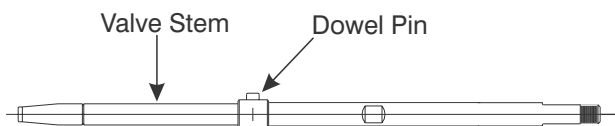

Figure 8-21. Valve Stem Assembly
9. Refer to Figure 8-21. Do not remove the Dowel Pin (13) from Stem (12). If either are damaged, replace the entire Valve Stem Assembly (11).